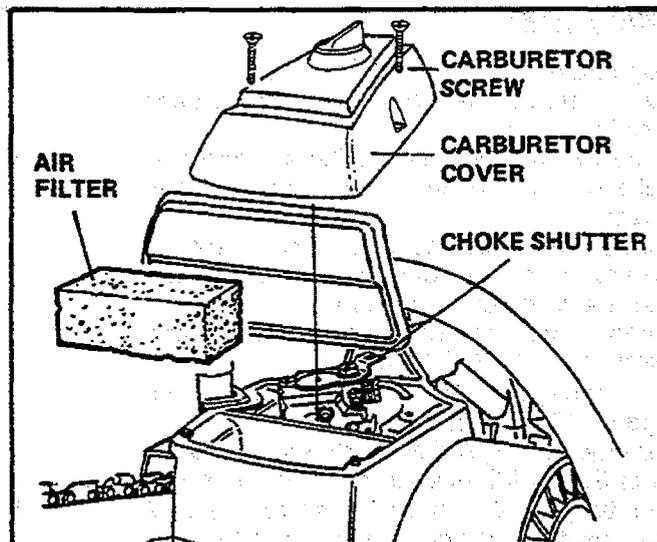

Figure 52
- e. Remove the carburetor cover screws and carburetor cover. Figure 52.
2. Remove the carburetor cover screws and carburetor cover. Figure 52.
10. Check the choke shutter to be sure it is closed. Figure 52.